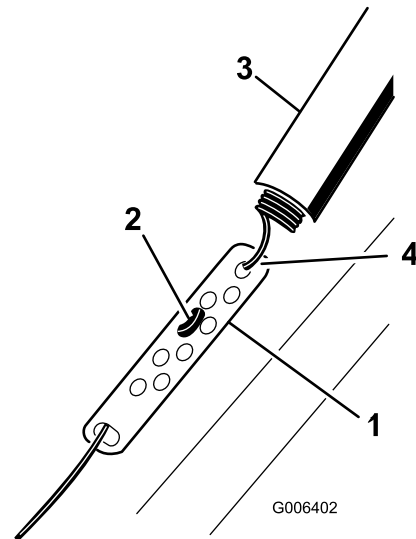

Figure 22
1. Slide up the spring cover and unhook the spring from the adjuster link (Figure 22).
2. Move the Z-fitting to a higher or lower hole on the adjuster link as needed to obtain the 1/16-inch to 1/8-inch (2 mm to 3 mm) gap between the control bar and the handle (Figure 22).